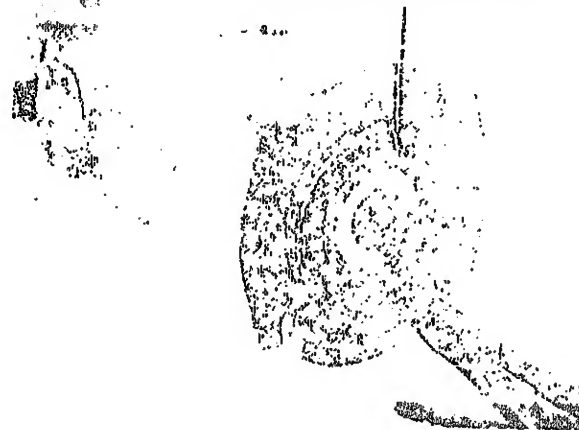

FIGURE 7-69.
h. For ease of installation, start snap ring in groove with the side opposite the snap ring holes (see figure 7-69).